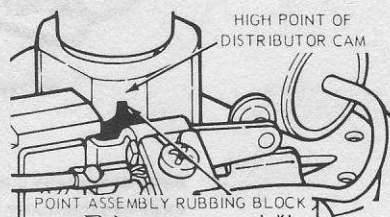

Fig. 4.5 Heel of breaker arm on highest point of cam (Sec. 3)
- 5 Presuming the points are satisfactory, or that they have been cleaned or renewed, measure the gap between the points with feeler gauges by turning the crankshaft until the heel of the breaker arm is on the highest point of the cam (Fig. 4.5). The gap should be as given in the Specifications.